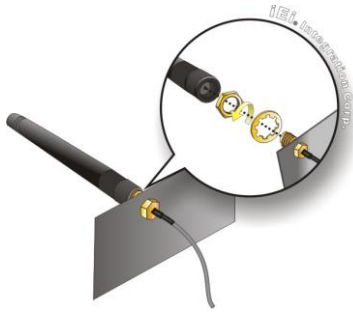

Figure 3-7: Securing SMA Connector and External Antenna Installation
Step 9: Install the external antenna (Figure 3-7).